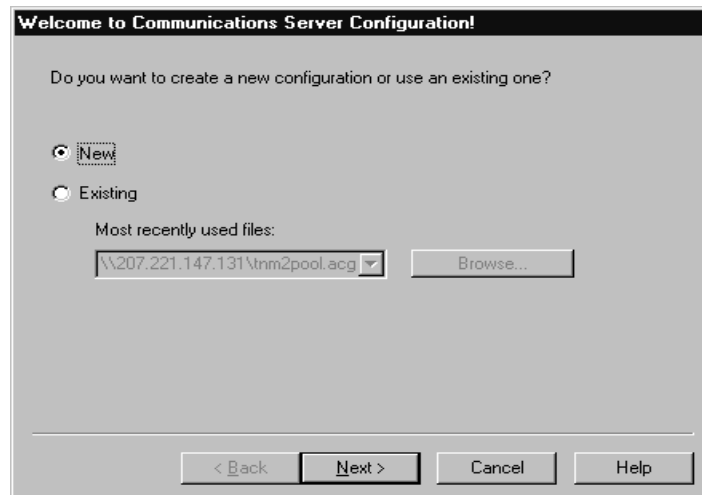
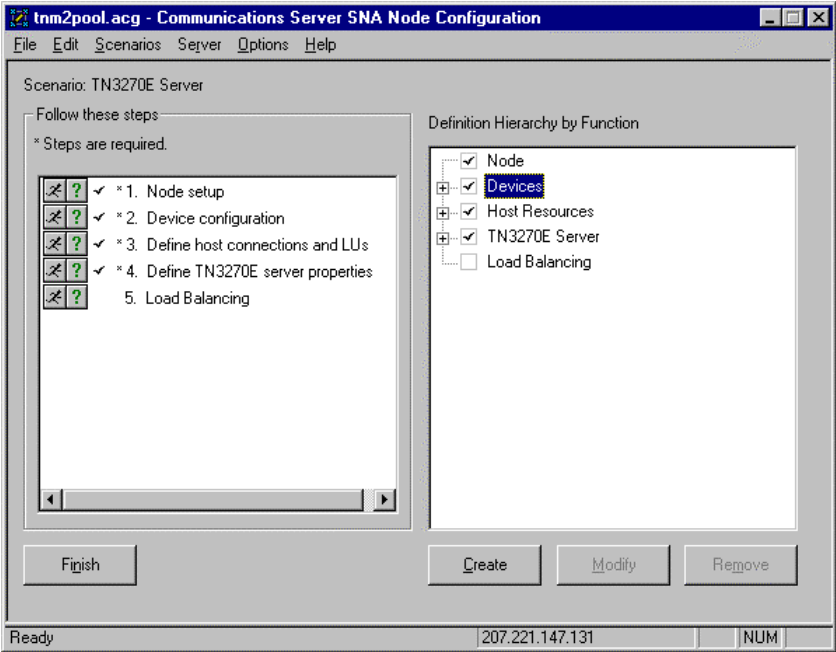
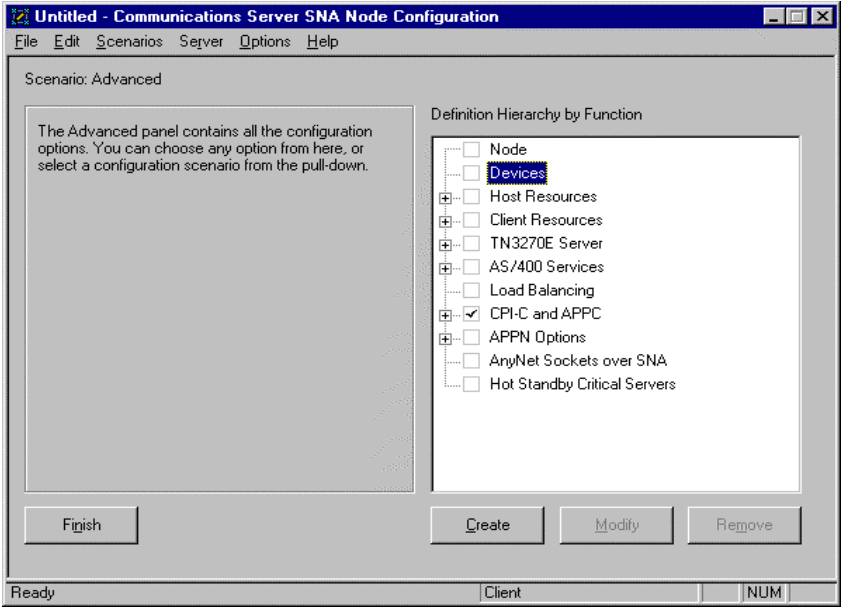
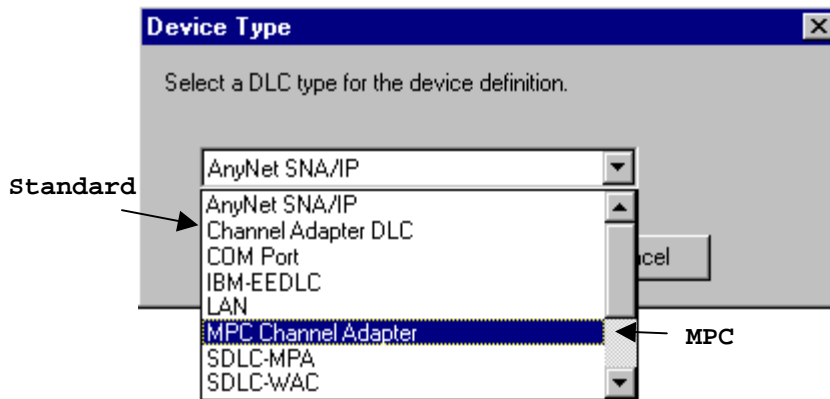

Figure 7-9. Automated Configuration Wizard
Figure 7-11. TN3270 Server Scenario
Figure 7-12. Advanced Configuration Scenario
Figure 7-13. Selecting a Channel DLC
1. When you start the SNA Node Configuration utility an automated procedure will prompt you whether to create a new configuration or use an existing one (Figure 7-9).
The configuration scenario will be displayed. Figure 7-11 shows an example of the TN3270 Server scenario.
New configurations using channel data link control cannot be defined by the automated procedure. If you are creating a new configuration click the “Cancel” button on the “Welcome to Communications Server Configuration!” dialog (Figure 7-9) to stop automated configuration. The Advanced scenario will display (Figure 7-12).
2. Once you have a configuration scenario displayed (Figure 7-11 or Figure 7-12) and the node defined you are ready to add the channel adapter data link control to the configuration. Double-click “Devices” in the Definition Hierarchy to invoke device definition. You will be prompted for device type. For standard (non-MPC) connections select “Channel Adapter DLC” (Figure 7-13). For MPC connections select “MPC Channel Adapter”. Click OK.